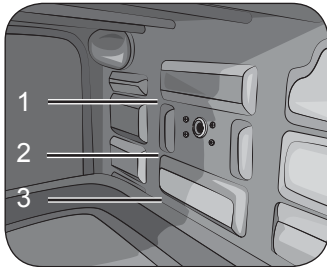

Fig. 3
- 2 Select the desired cooking level (Fig. 3). Place the grill (H) or the drip pan (I) with prepared food inside the oven.